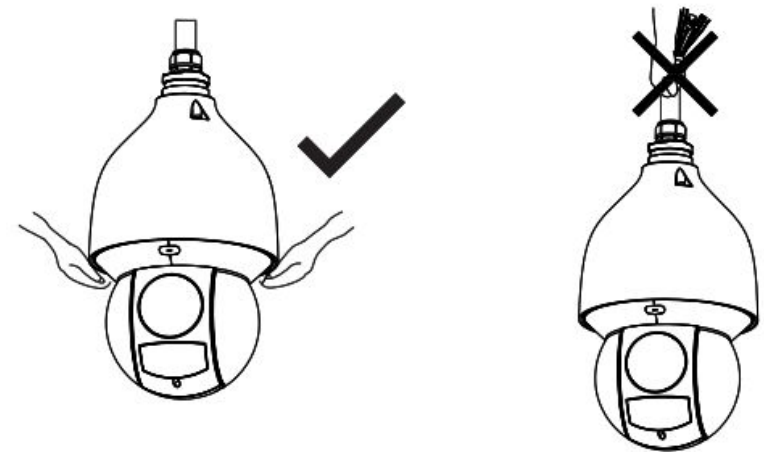

Figure 1-2
**Important:** Do not carry the camera by its cable interface. See Figure 1-2.